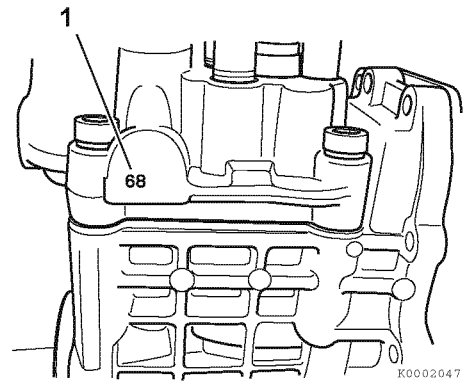

Figure 7-29
- Calculate the difference between the timing index numbers (1, Figure 7-29) of the fuel injection pump that you removed and the replacement fuel injection pump. See Calculation example below.